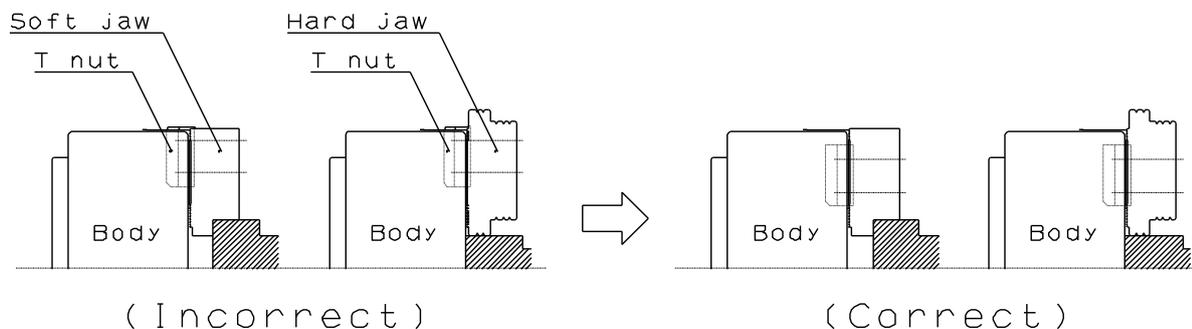

Fig.10
- Use the T nut so that it does not come out from the master jaw. (Refer to Fig.10)